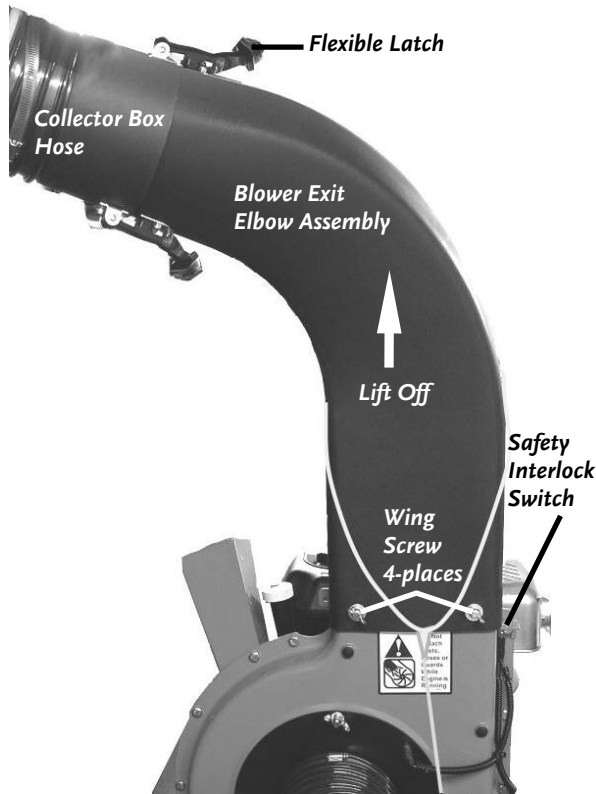

Figure 45
1. Disconnect the Blower Exit Elbow to the Collector Box Hose by releasing the two (2) Flexible Latches (**Figure 45**) and separate the Hose.
2. Remove the four (4) Wing Screws from the Blower Exit Elbow Assembly (**Figure 45**).
3. Lift the Blower Exit Elbow Assembly from the top of the Blower and install a new assembly in the reverse order (**Figure 45**).
1. Disconnect the Blower Exit Elbow Assembly from the Collector Box Hose (**Figure 45**).
- BEFORE PERFORMING ANY MAINTENANCE, SHUT OFF THE ENGINE, ALLOW FIVE (5) MINUTES FOR PARTS TO COOL AND DISCONNECT THE SPARK PLUG WIRE.
1. Disconnect the Blower Exit Elbow Assembly from the Collector Box Hose (**Figure 45** on page 42).